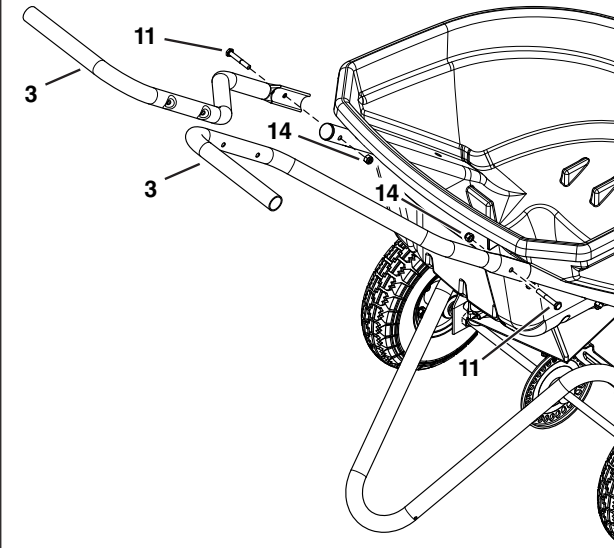

Figure 9
STEP 9: (SEE FIGURE 9)
STEP 10: (SEE FIGURE 9)
- Attach the handle tubes (3) to the hopper support tubes using two 1/4" x 1-3/4" hex bolts (11), and 1/4" nylock nuts (14). **Tighten.**